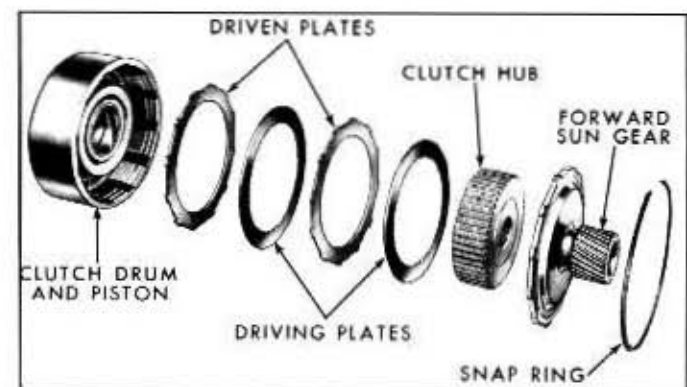

Fig. 7A-22—High Clutch Plate Pack—(60C-4422)
1. Remove the snap ring that retains the forward sun gear and flange in the clutch drum. Refer to figure 7A-22. Lift the gear and flange out of the drum.